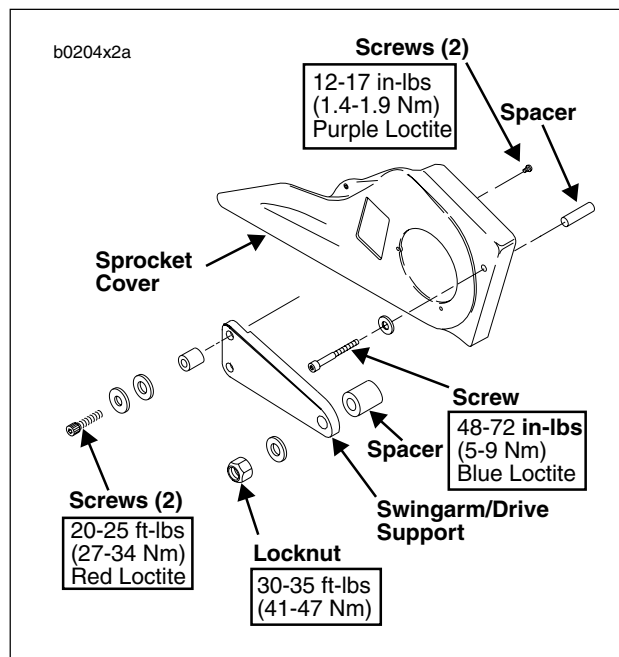

Figure 2-101. Sprocket Cover
1. See Figure 2-101. Remove nut and washer from swingarm/drive support.
1. See Figure 2-101. If removed, attach sprocket cover to swingarm/drive support.